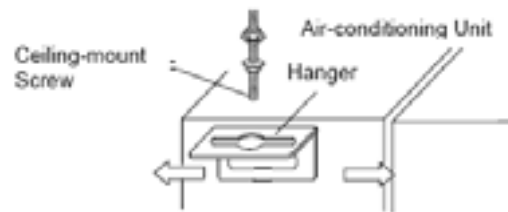
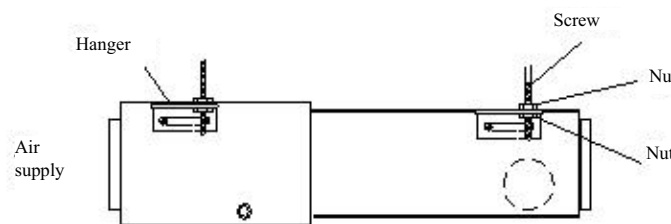

Fig.1.1.2
Fig.1.1.3
- 4) Install the hanger onto the indoor unit as Fig.1.1.2 and Fig.1.1.3 shows.